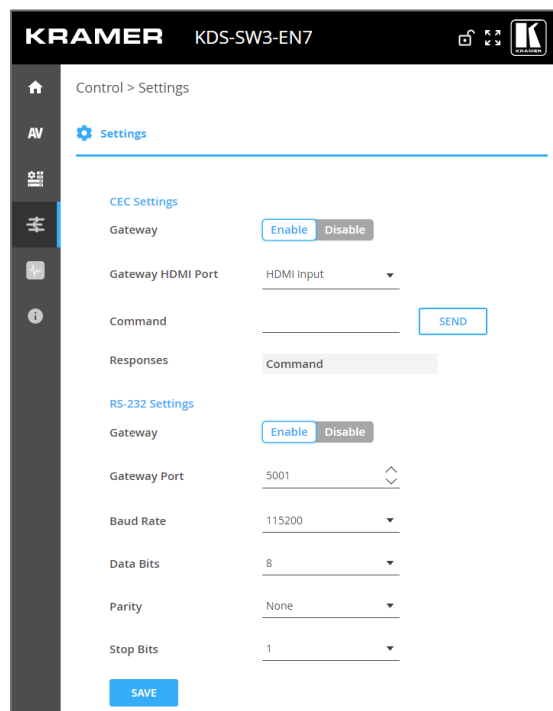

Figure 43: Control > Settings Page – CEC Settings
1. In the Navigation pane, click **Control**. The Control>Settings page appears (see Figure 43).